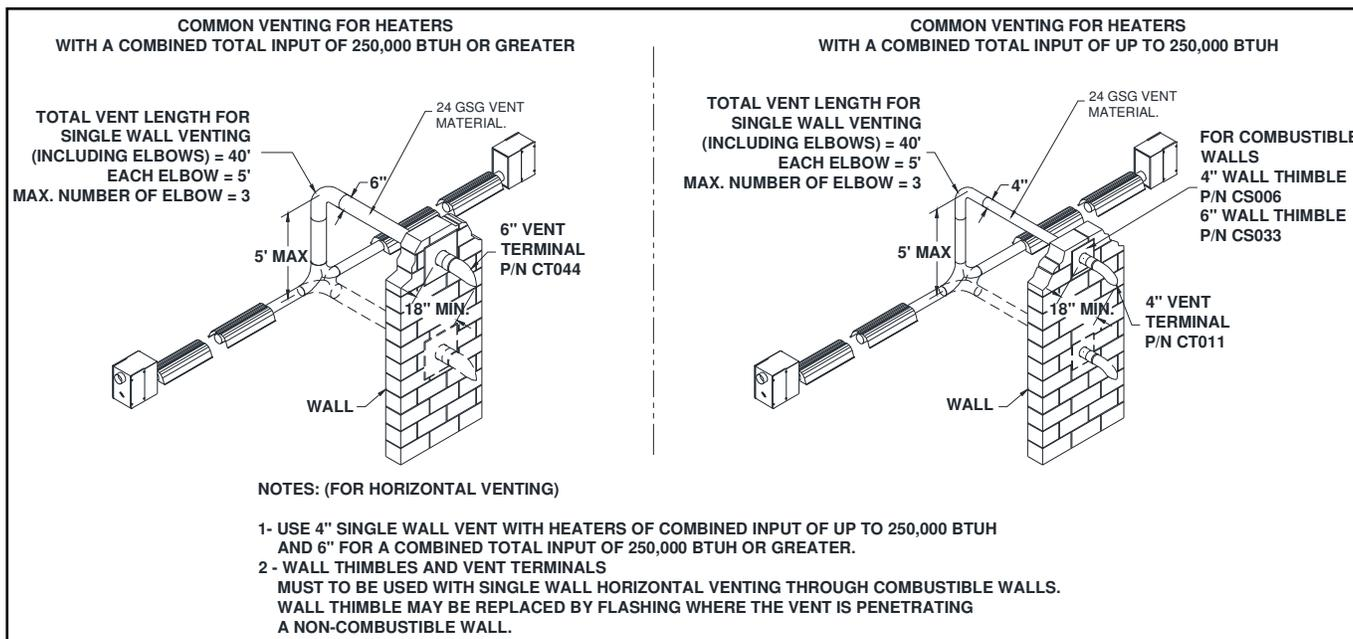

Figure 22: Common Horizontal Venting
- Refer to Figure 22 for detailed Common Horizontal Venting guidelines.